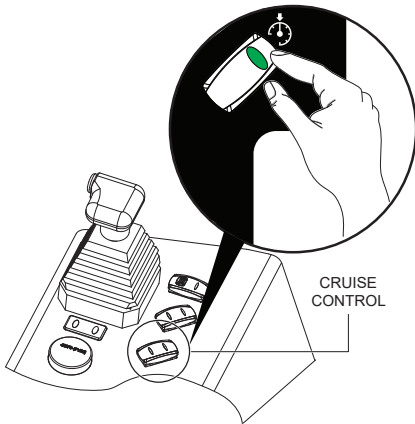

Figure 23. Cruise Control Switch
2. Press down on the left side of the **cruise control switch**. The **GREEN LED** on the cruise control switch turns **ON** (Figure 23).